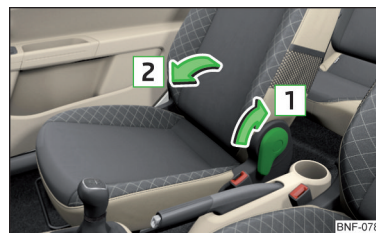

Fig. 49
- To **fold** the seat down, pull the lever in the direction of arrow **1** and fold down the seat back in the direction of arrow **2** » Fig. 49. The locking mechanism must audibly snap into place.